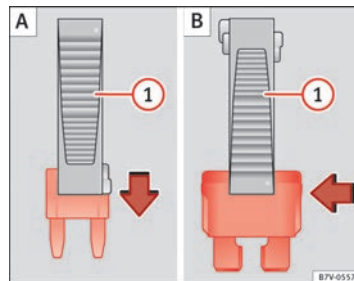

Fig. 204 Removing or fitting a fuse
- For *small fuses*, insert the pincers from above ⇒ Fig. 204 (A).
- For *larger fuses*, insert the pincers from one side of the fuse (B).
- Replace the blown fuse by one with an *identical* amperage rating (same colour and markings) and *identical* size ⇒ ①.